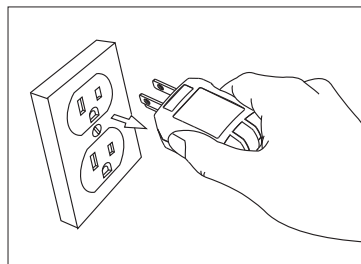

Figure 2
2. Disconnect the Tester from the socket as indicated in Figure 2.